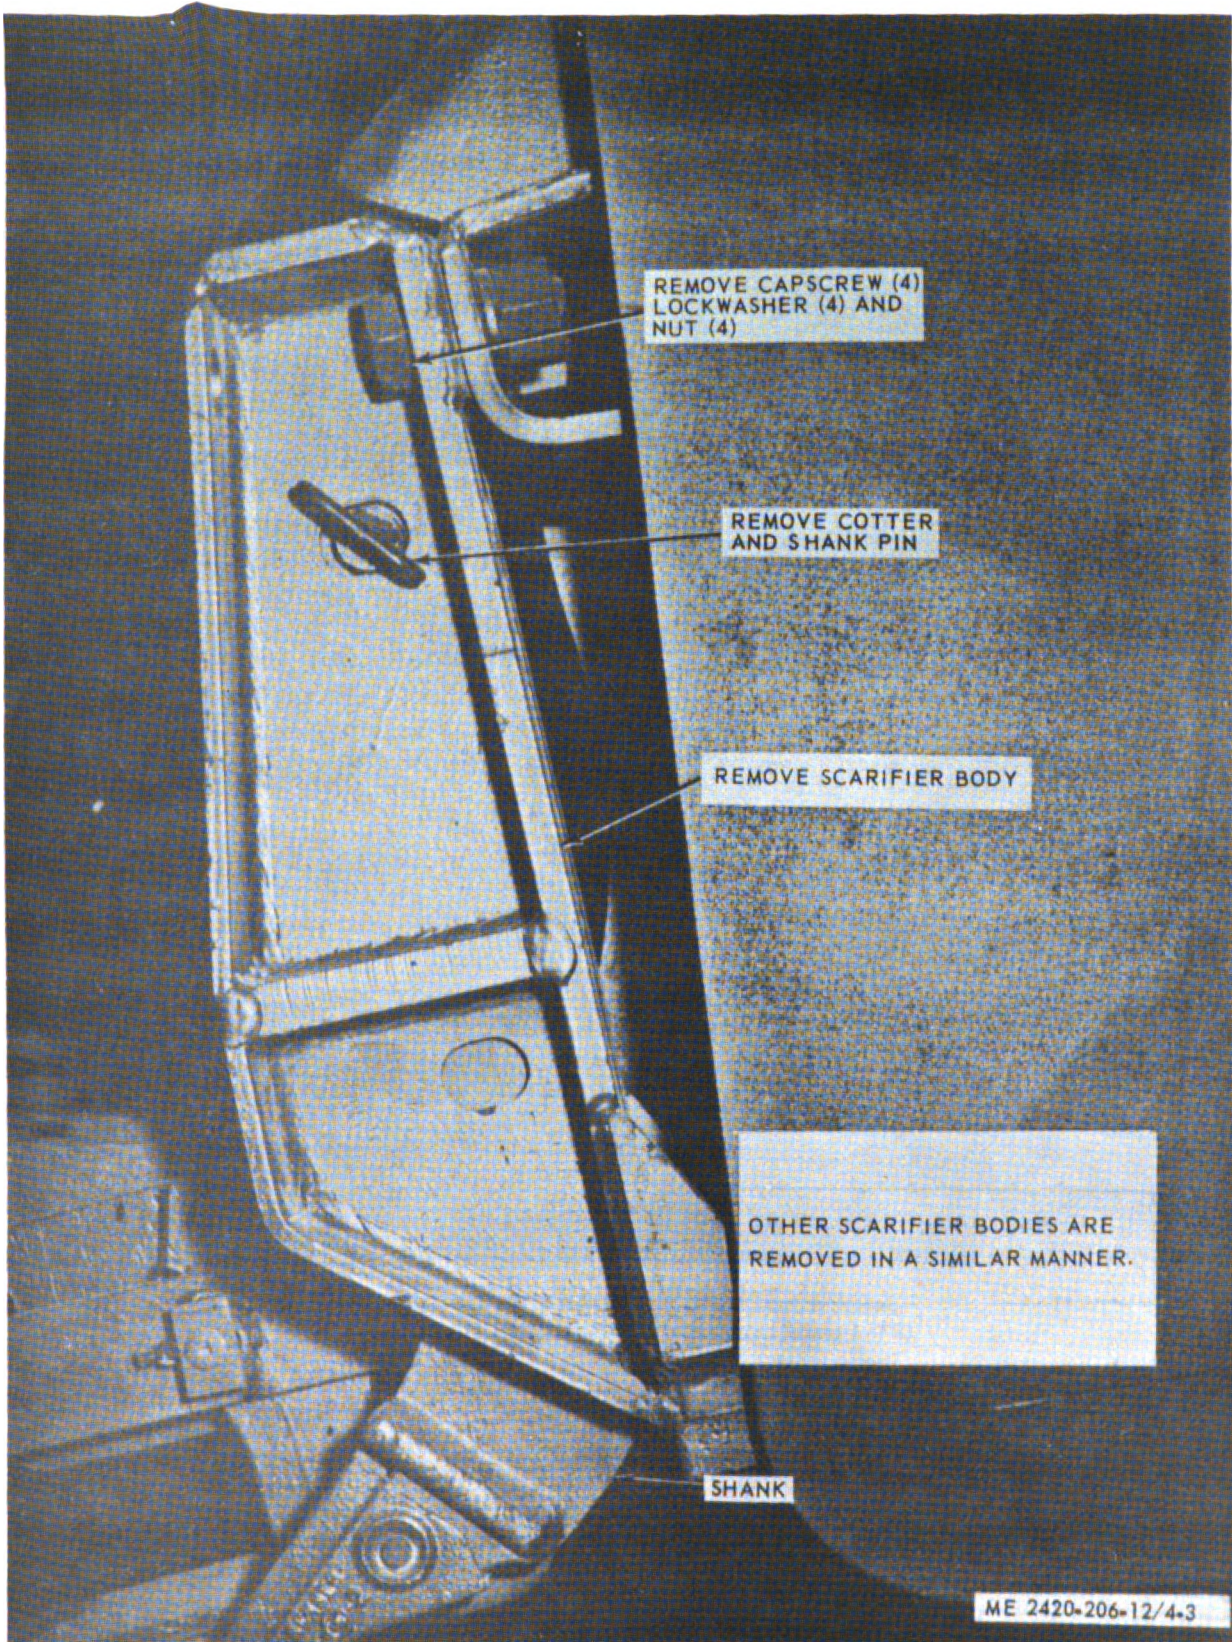

Figure 4-3. Scarifier body, removal and installation.
(1) Remove scarifier tooth (para 4-4) and shank from body.
(2) Remove scarifier body as illustrated in figure 4-3.
(1) Clean parts and dry thoroughly.
(2) Inspect for wear, cracks, breaks and other damage. Replace damaged scarifier body as necessary.
c. Installation. Install scarifier body as illustrated in figure 4-3.